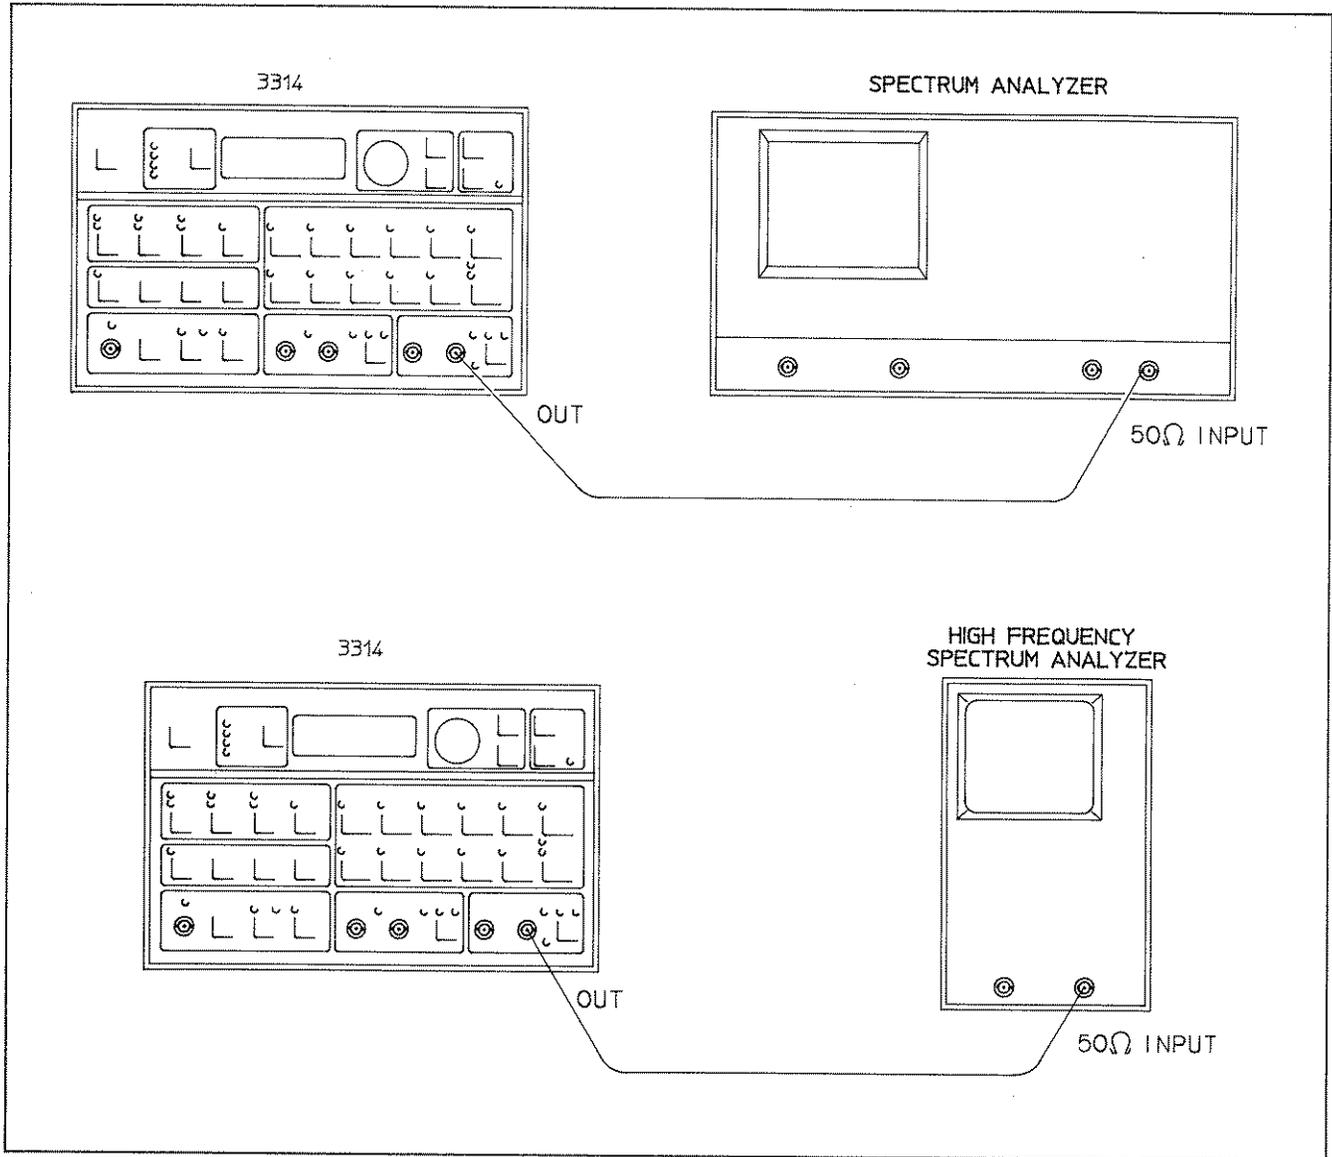

Figure 4-9. Sine Wave Harmonics
C. Connect the 3314A to the Spectrum Analyzer as shown in Figure 4-9.
K. To measure the harmonics of the frequencies listed in Table 4-7, connect the 3314A to the High Frequency Spectrum Analyzer as shown in Figure 4-9.